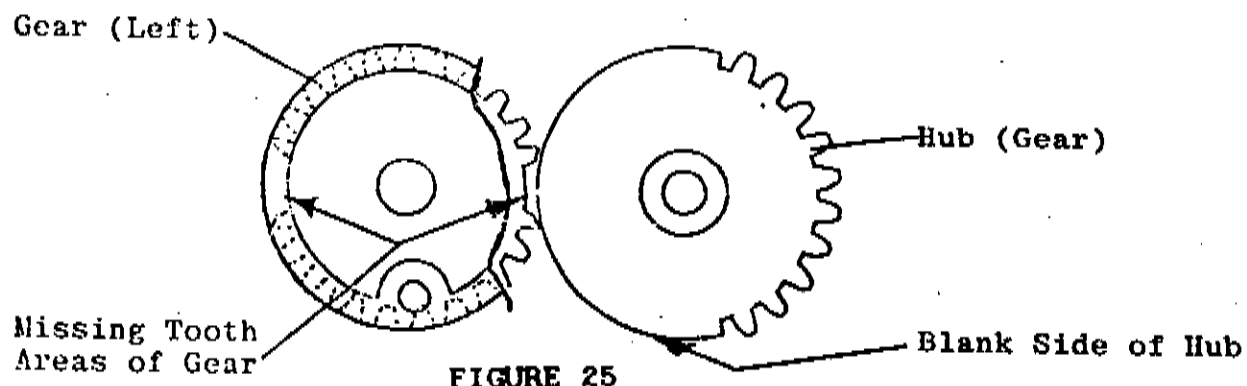

FIGURE 25
- 3) Re-install first gear on appropriate pin, aligning either of the missing tooth areas of gear assembly to any point on blank side of drive gear. (See Figure 25)